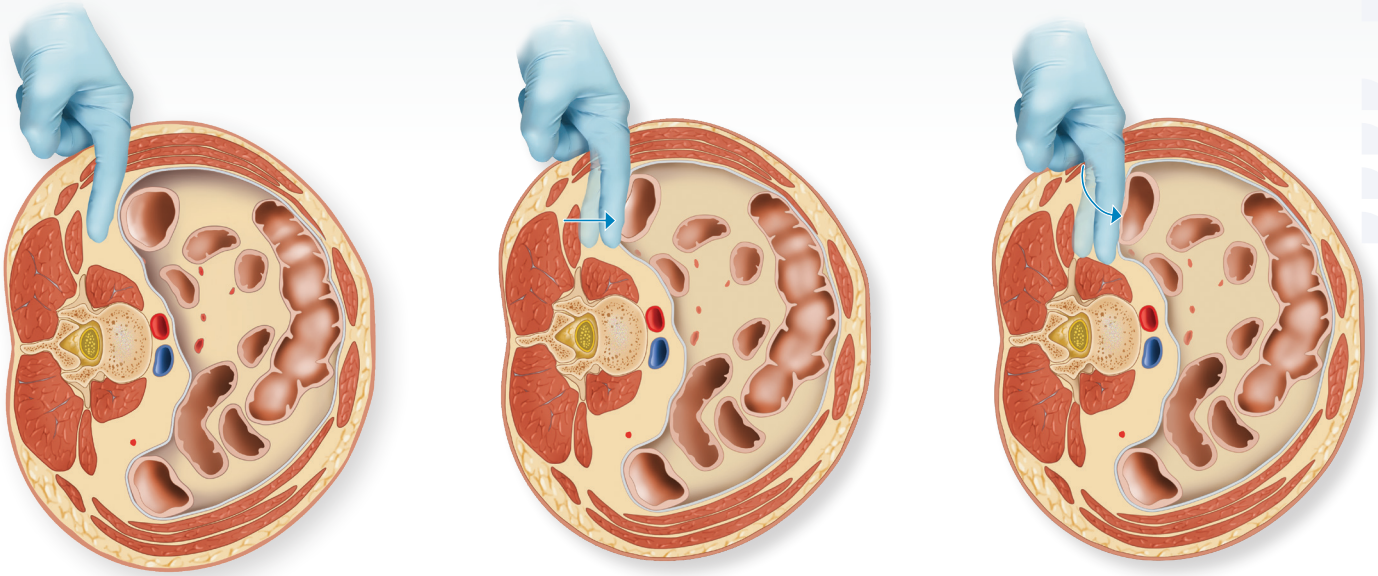

Figure 11
- Slide the finger forward to the retro-psoas recess and over the dome of the psoas to ensure the retroperitoneal viscera have been safely retracted anteriorly (**Figure 11**).